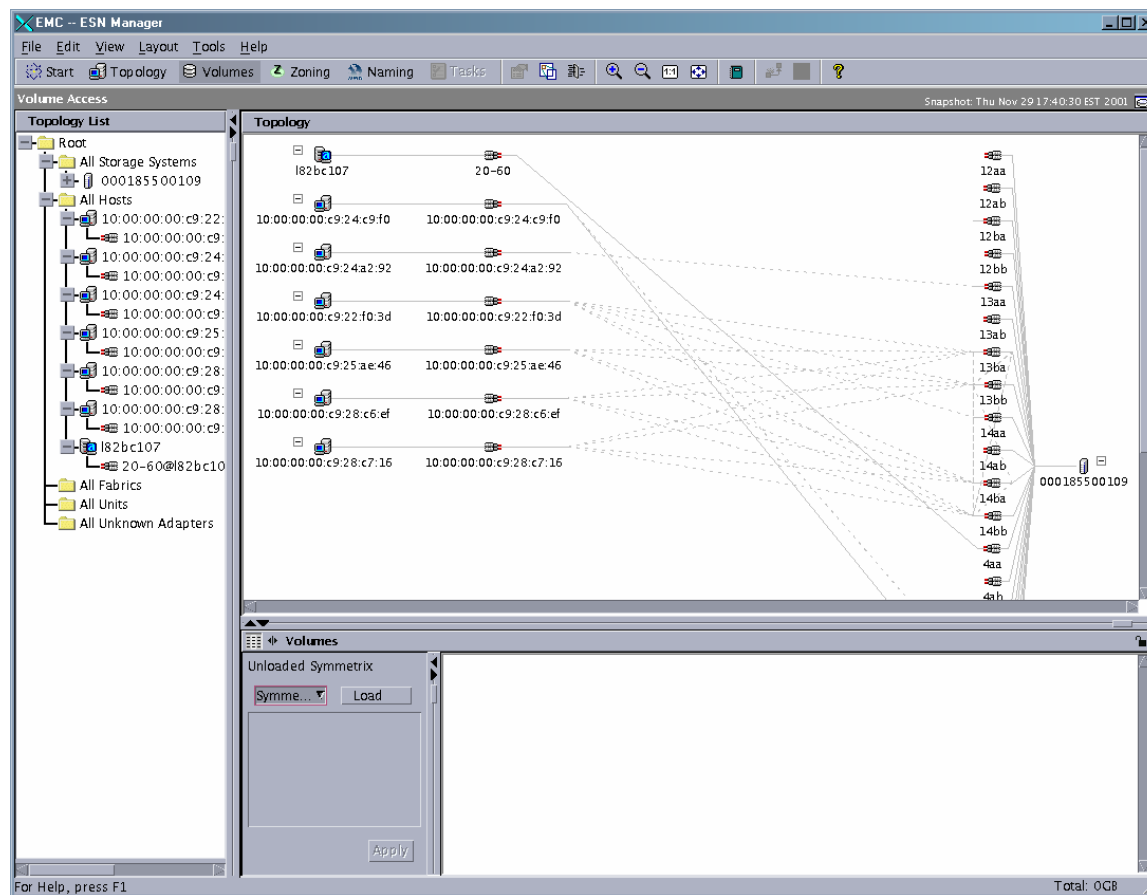

Figure 1. This Shows the ESN Topology Including Host Base WWNs
The `vcmfnd` command serves three purposes. It will determine the WWN of each host HBA (for hosts that do not have `fpath` installed), assign a recognizable alias known as an ASCII WWN (AWWN) to each WWN (if one is not already present), and enable the GUI to draw and display the ESN topology. See the included screenshot (Figure 1) for an example of this. Using the *ESN Manager/Volume Logix Administrator's Guide*, you will simplify configuration by running `vcmfnd` on the host.
3. Using your preferred method as outlined in the *ESN Manager/Volume Logix Administrator's Guide*, allocate a device to the *named* adapter or WWN of the adapter that you will use for booting. Figure 1 shows some of the terminology used.
Note: In Figure 1, notice that some hosts and HBAs are named (have a logical hostname and adapter location code) while others are not named (are depicted only by WWN). If you install and run the Volume Logix Utilities on the host, then your host and HBA will appear as a named host and HBA, making management easier. This is not a requirement, as you can manage device allocation as well by using the WWN to locate the adapter to which you want to allocate devices.